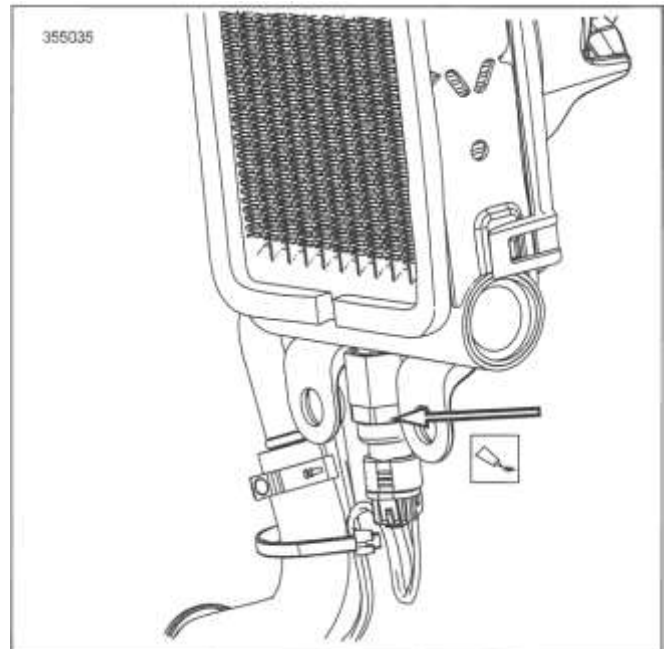

Figure 7-15. ECT Sensor (Left Lower Fairing)
1. See Figure 7-15. Remove ECT sensor.
2. See Figure 7-15. Install ECT sensor.